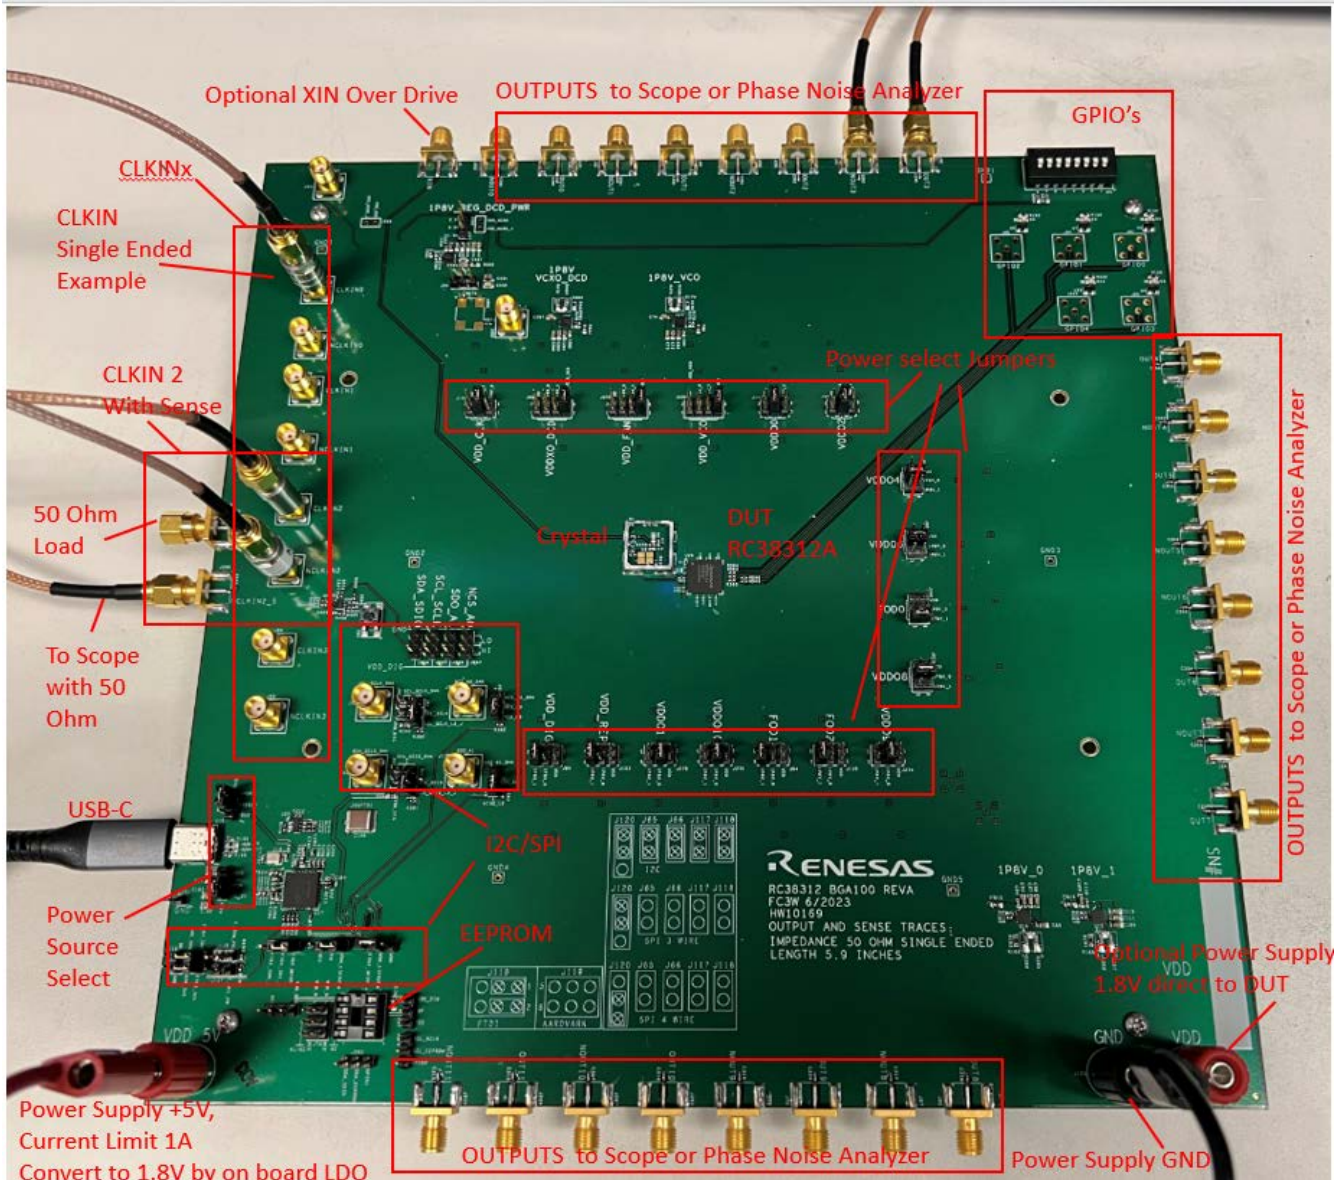

Figure 2. Evaluation Board – General Setup
The following sections describe the crystal, input clock, serial, GPIO, and output and power functions used for setting up device testing. The jumper setup example is shown in Figure 2.
Use 5V\_VDD with on-board LDO to generate 1.8V power rail. See Figure 2 for power select jumper settings (the J90 VDD = 1.8V setting is not used this example).
**CLK2** input has no on-board 50Ω termination. Sense connectors are provided for lab equipment monitoring (for example, scope with 50Ω input for monitoring the CLK input signal). If the sense connector is not used, then a dummy 50Ω load is required (see Figure 2).